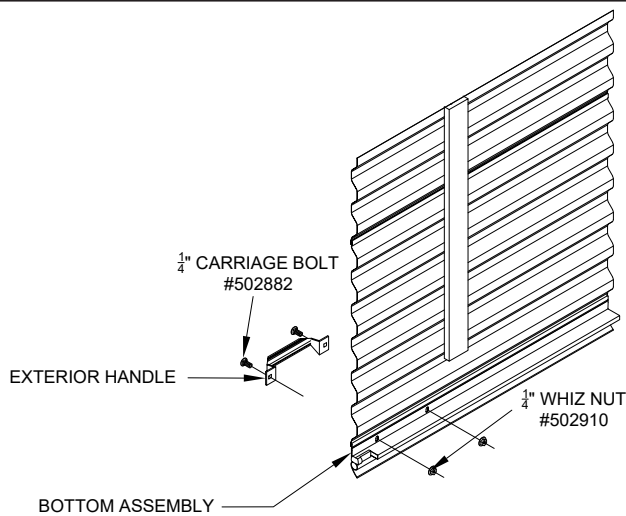

Figure 10
6.2 Attach one keeper to the bottom interior edge of each side of the door with one (1) 1/4" carriage bolt and whiz nut. (See Figure 7).) (See Figure 10).
8.2 Exterior handle: Attach the handle(s) to the bottom exterior edge of the door with two (2) 1/4" carriage bolts and whiz nuts provided (See Figure 10). Doors 6' wide and larger will have two handles.